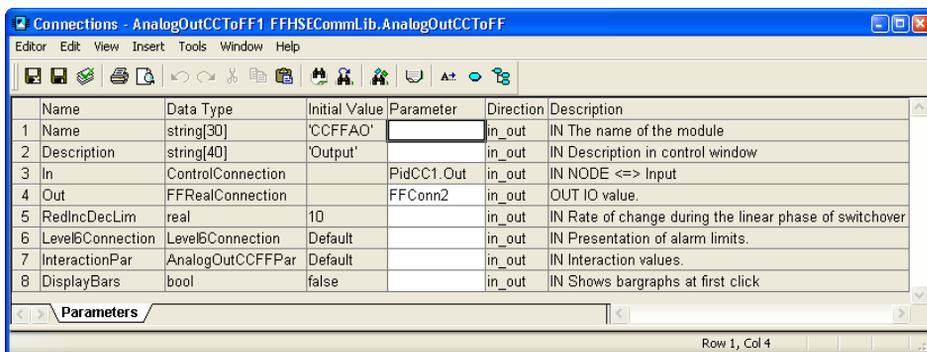

Figure 22. AnalogOutCCToFF Connections Editor
1. Declare a variable of the FFRealConnection type and connect it to the Out parameter of the AnalogOutCCToFF control module (see Figure 22).